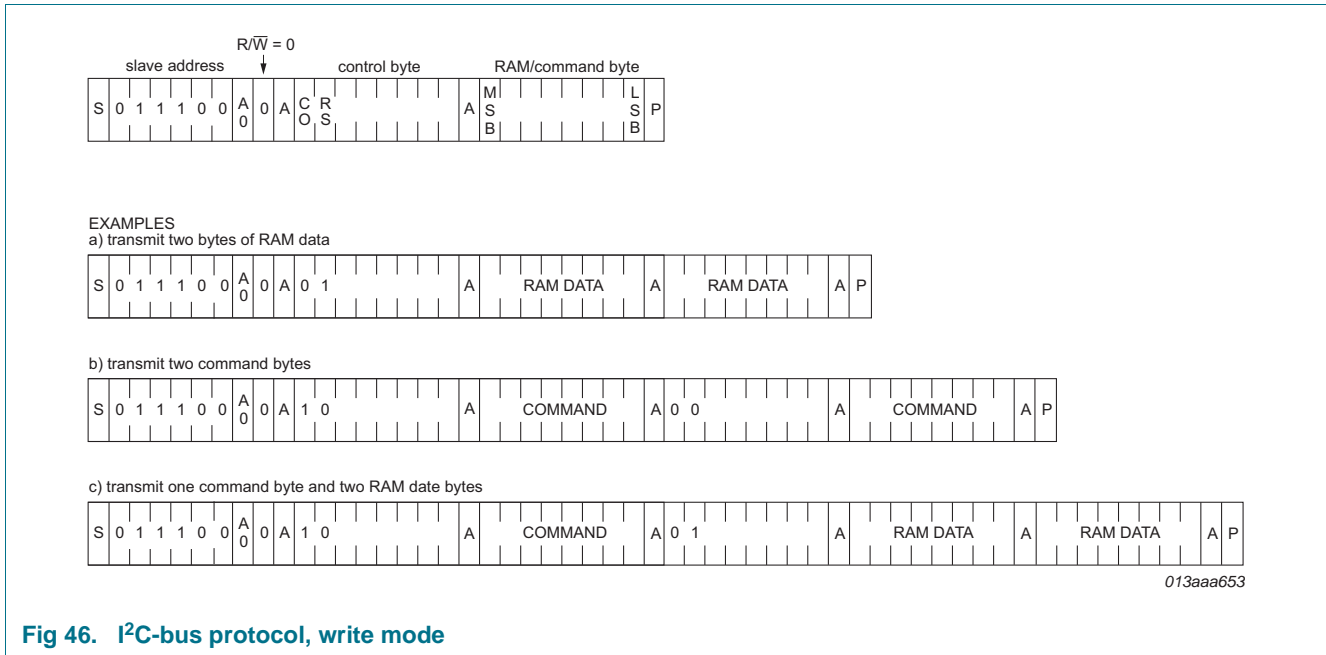

Fig 46. I2C-bus protocol, write mode
The I2C-bus protocol is shown in Figure 46. The sequence is initiated with a START condition (S) from the I2C-bus master which is followed by one of the two PCF8537AH slave addresses available. All PCF8537AH's with the corresponding A0 level acknowledge in parallel to the slave address, but all PCF8537AH with an alternative A0 level ignore the whole I2C-bus transfer.